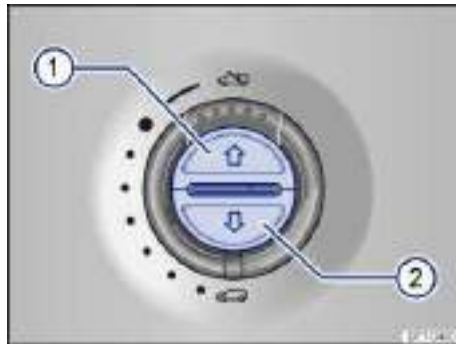

Fig. 173 In the headliner: Buttons for sunshade.
- Press and hold the button ⇒ fig. 173 \(2\) for about 5 seconds until the sunshade is completely closed.